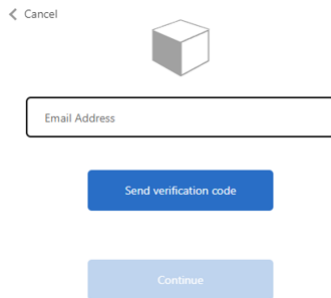

Figure 153 Send Verification Code
- 4 The screen shown in Figure 153 appears requesting the registered email address: Enter the registered email address.